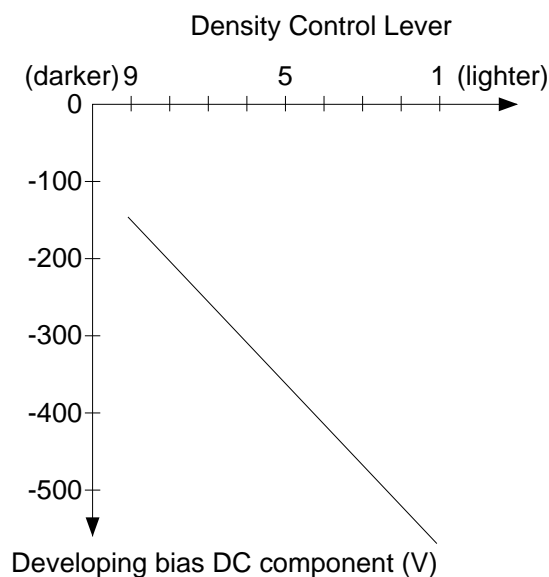
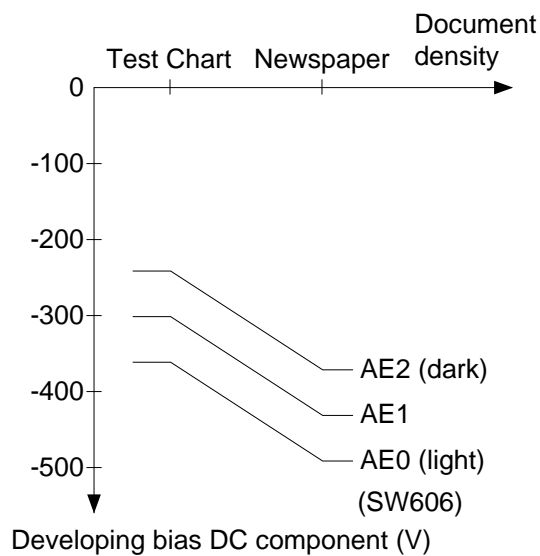

Figure 4-101D
Figure 4-103D
Figure 4-101D, 102D shows the changes in the DC component of the developing bias caused by the density control dial/lever in manual density control mode; Figure 4-103D, on the other hand, shows changes in the DC component of the developing bias caused by different document densities in automatic density adjustment mode (AE).